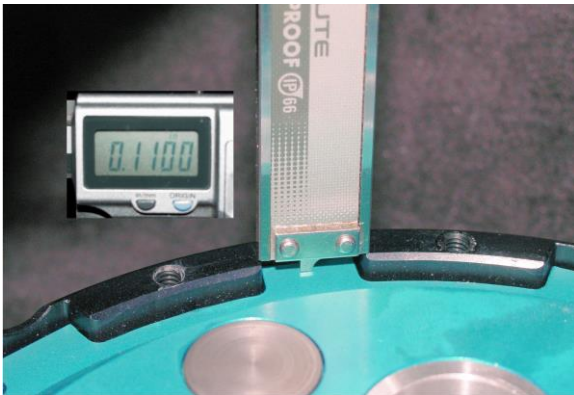
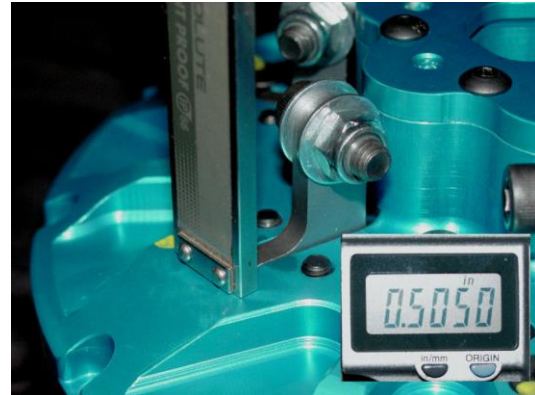

Fig. 1
Fig. 2
- E. As of **01/13/2016** your GSXR 1000 Gen II Multistage will have the same style ring used on our other Gen II Multistage Lockups. Install the friction and metal plates the same way as with the stock procedure, except eliminate the stock ring and spring washer, start with a FIBER, then steel, continue until you end with a fiber. The GSXR1000 Gen II clutch has (7) steels (.091''thick) and
- (8) fibers (0.111" thick) plates. The total clutch pack should be approximately 1.525". Units purchased before 01/13/16 having the traditional style inner hub will still utilize 8 fibers and 8 steels, starting with a **steel** and a stack up of 1.616"
- F. Insert the pressure plate on top of the last fiber. The height from the top of the tang, on the pressure plate to the top of the basket should be approximately 0.110" (See Fig. 1). This will give you an air gap below your arms to the buttons of 0.110".
- H. Place the hat assembly on the basket and tighten the twelve (12) allen head cap screws to secure it.
- I. The air gap between the arms and the pressure plate buttons can be measured using the thin bottom section of a caliper. Stick the caliper rod into the slot opening just behind the arm (See Fig. 2) until it hits the top of the button on the pressure plate. Take a height reading to the top of the Gen II hat, this reading should be between 0.490"-0.510". This gives an air gap of 0.100"-0.120". It is better to start with an air gap of 0.100" to compensate for clutch wear. This technique can be used to maintain the air gap, after repeated runs, without removing any part of the clutch.